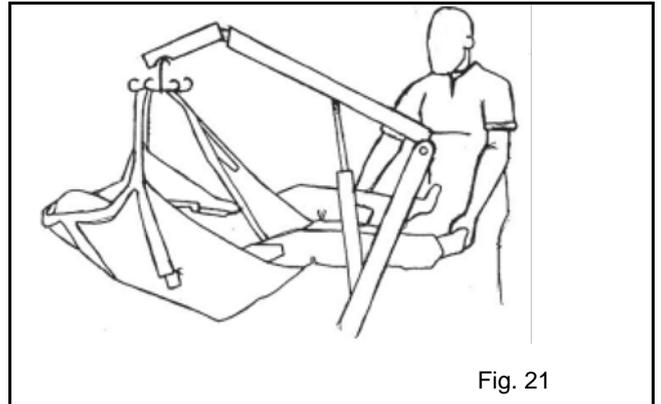

Fig. 21
- 9) Continue raising patient until feet can clear the base of lift. If appropriate, turn patient in direction of travel (See Fig. 21).